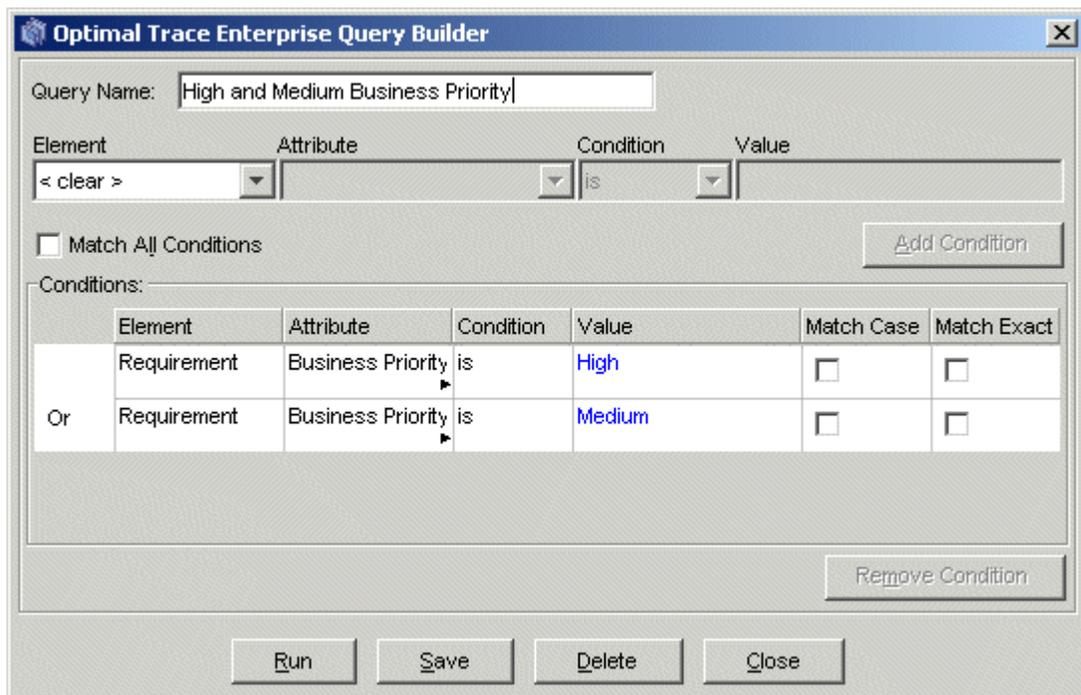

Figure 35 - Query Builder for Advanced Queries
- Click the Delete button as shown in screen: Figure 35 - Query Builder for Advanced Queries